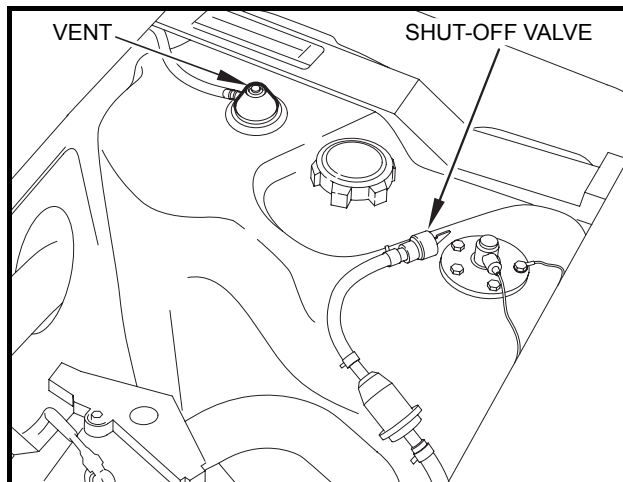

Figure 3-2 Fuel Tank
1. Restore the fuel systems to operation (**Figure 3-2, Page 3-3**).